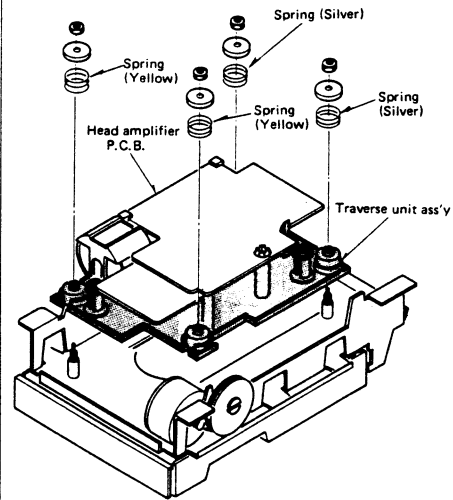

Fig. 13
5. Turn over the traverse unit and remove the 4 nuts (Fig. 13), then the traverse unit ass'y can be removed.